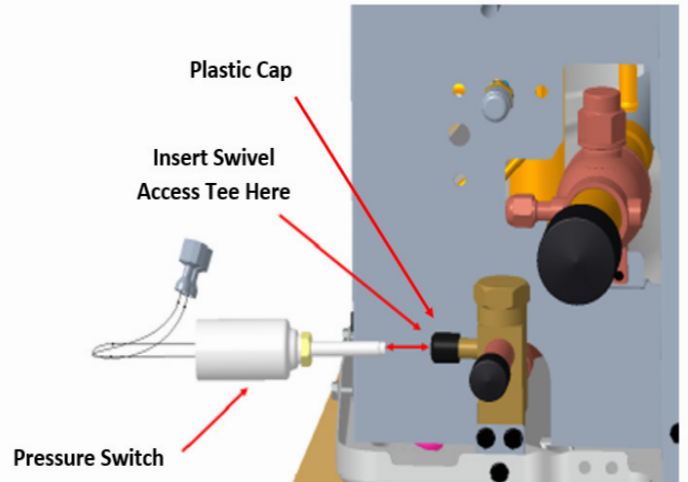

Figure 4
6. Remove the plastic cap from the liquid line access fitting shown in figure 4.
7. On the liquid line first screw the included Swivel Access Tee (not shown in figure 4), then screw the Pressure Switch onto the Swivel Access Tee per figure 4.